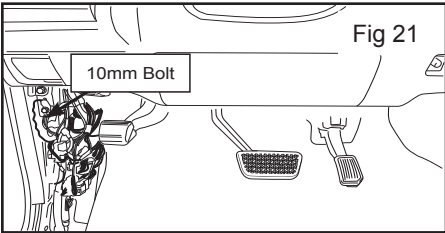

Fig 21
19. Remove two 10mm bolts in order to drop the bottom drivers dash panel. (Figure 21)